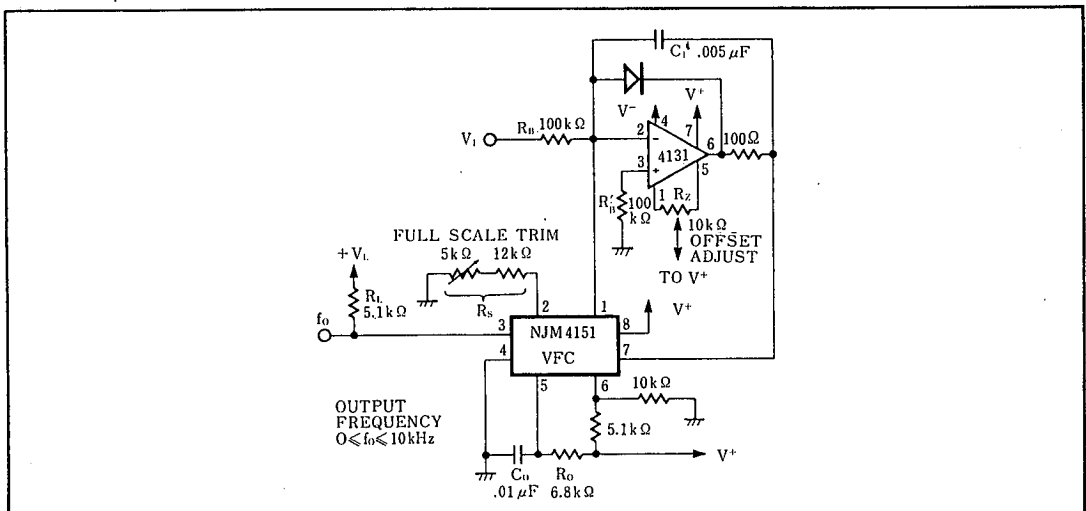

Figure 4. Precision Voltage-to-Frequency Converter
In this application (Figure 4) the 4151 VFC is used with an operational amplifier integrator to provide typical linearity of 0.05% over the range of 0 to  $-10V$ . Offset is adjustable to zero. Unlike many VFC designs which lose linearity below 10mV, this circuit retains linearity over the full range of input voltage, all the way to 0V.
1. Set  $R_S=14\text{k}\Omega$  or use a  $12\text{k}\Omega$  resistor and  $5\text{k}\Omega$  pot as shown in the figures. (The only exception to this is Figure 4.)
b) For the precision mode circuit of Figure 4, set  $R_{11}=V_{10}/100\mu\text{A}$  where  $V_{10}$  is the full scale input voltage. Alternately the op-amp inverting input (summing node) can be used as a current input with full scale input current  $I_{10} = -100\mu\text{A}$ .
- I. Design a precision VFC (from Figure 4) with  $f_0=100\text{kHz}$  and  $V_{10}=-10\text{V}$ .